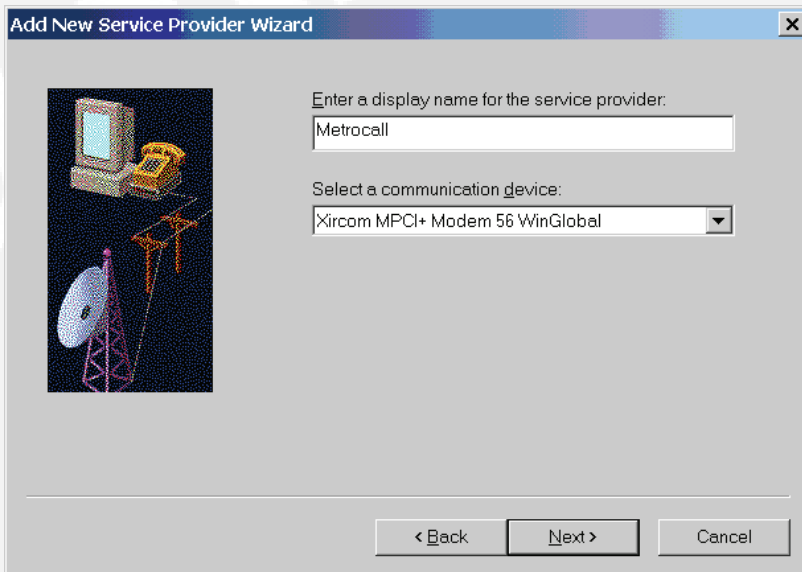

FIGURE 15-8. NEW SERVICE PROVIDER NAME
6. Click on the drop-down arrow to select the communication device (modem). Select the modem previously setup. Click on the **Next** button to proceed. Figure 15-8.